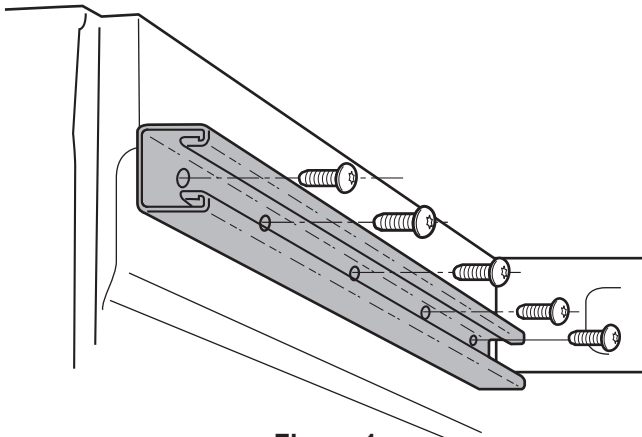

Figure 1
- a) Use T-30 Torx driver to remove the bed rail mounting bolts. Keep these bolts in a safe place, as they will be re-used to mount the rails to the tonneau clamp brackets. (Fig. 1)